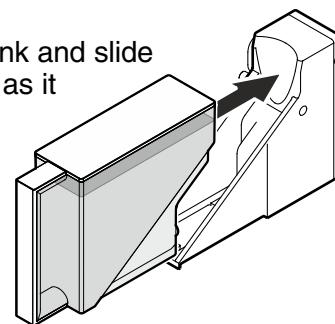

Figure 20
- Reinsert the water tank and slide into the holder as far as it will go (**Figure 20**).